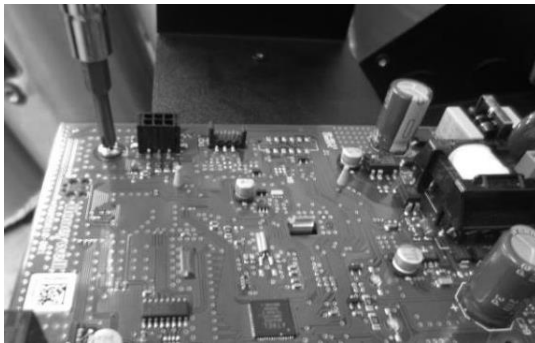

Figure 14 – Control Board Screws
4. Remove the four (4) screws from the control board. See Figure 14.
7. Install the new control board with the four (4) screws removed in Step 5. See Figure 14.